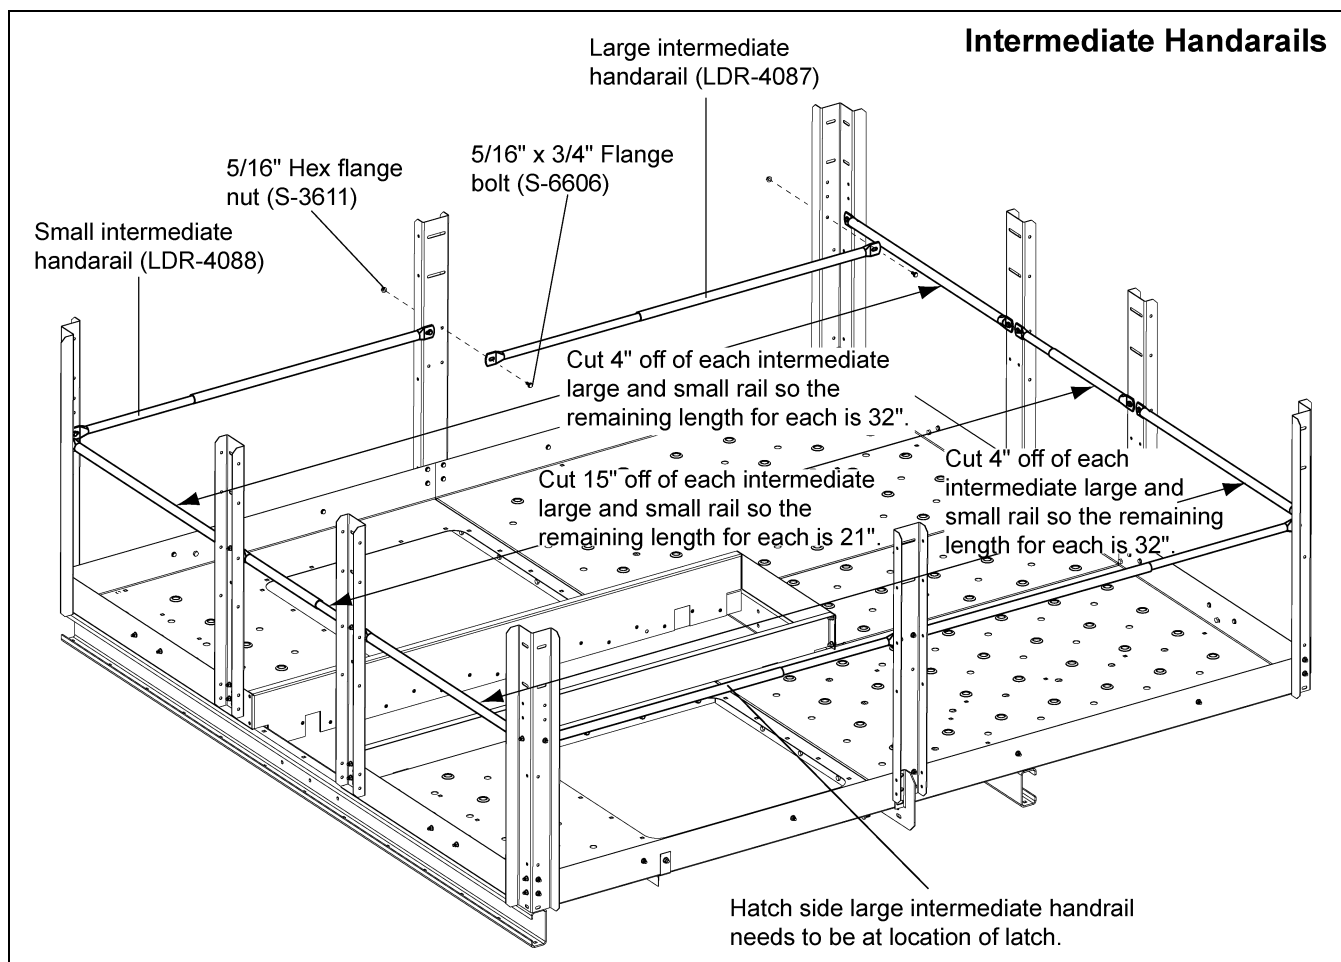

Figure 8R Intermediate Handrails
NOTE: The small intermediate handrail (LDR-4088) fits inside the large intermediate handrail. It is critical that large and small rails be properly identified in advance. Rails are cut to size and cutting the wrong rail or to the wrong length will prevent proper installation. (See Figure 8R.)
- b. Insert one small rail inside of one large rail and telescope the joined rails from the "W" corner post to the platform post as shown in Figure 8R on Page 58.
- b. Insert one small rail inside of one large rail telescope the joined rails from the "W" corner posts to platform posts as shown in Figure 8R on Page 58.